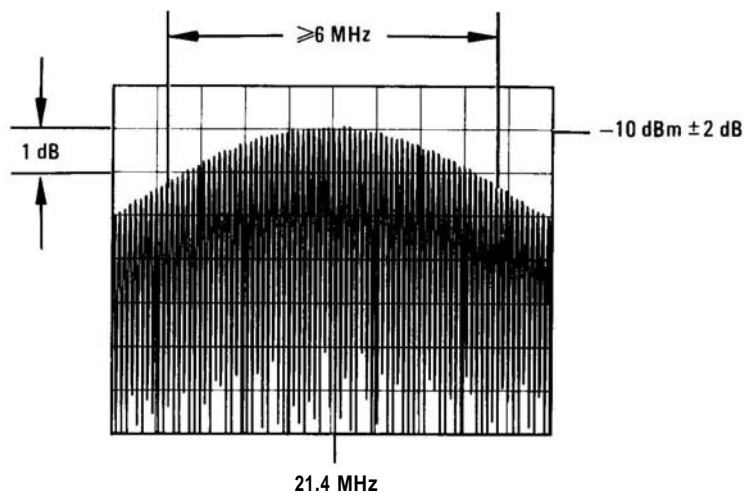

FIGURE 5-15. SECOND IF BANDPASS FILTER RESPONSE
13. Adjust function generator amplitude and frequency for at least 10 MHz deviation ( $\pm 5$  MHz) and an easy-to-view display on the 8569B spectrum analyzer. Refer to Figure 5-15. Increasing the frequency of the function generator will increase the swept frequency range of the sweep oscillator.
15. Refer to Figure 5-15 for example of properly adjusted bandpass response and requirements for response.